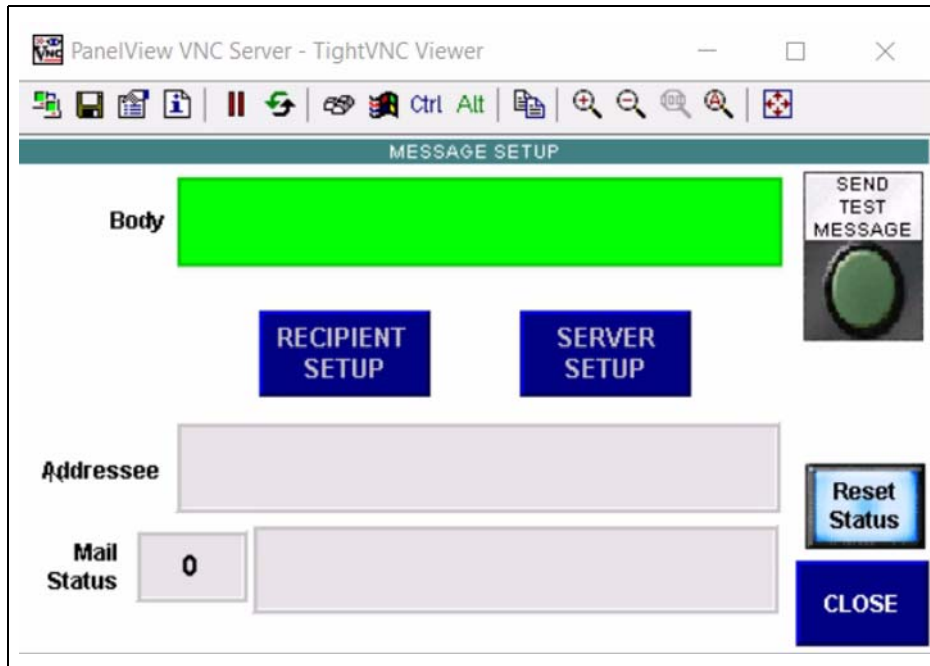

Figure 5A
1. Navigate to the Message Setup screen by going through the Help/Info, then WatchDog Messaging. (See Figure 5A.)